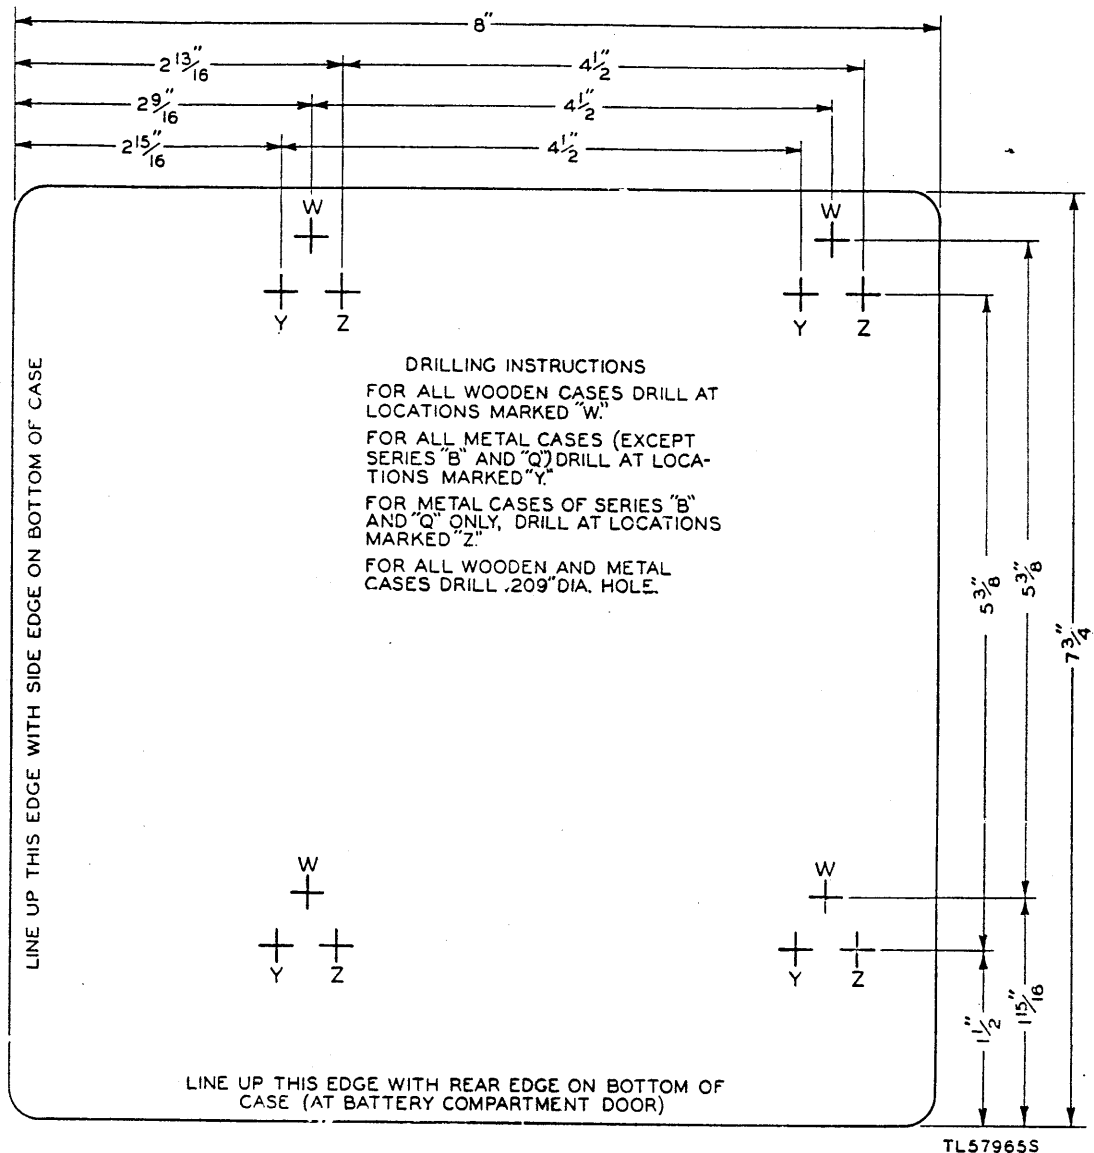

Figure 5. Drilling template for frequency meter cabinet.
(1) Open the battery compartment door of the frequency meter. Remove the batteries and output cable.
(2) Position the drilling template (fig. 5) on the bottom of the frequency meter as directed by the printed instructions on the template.